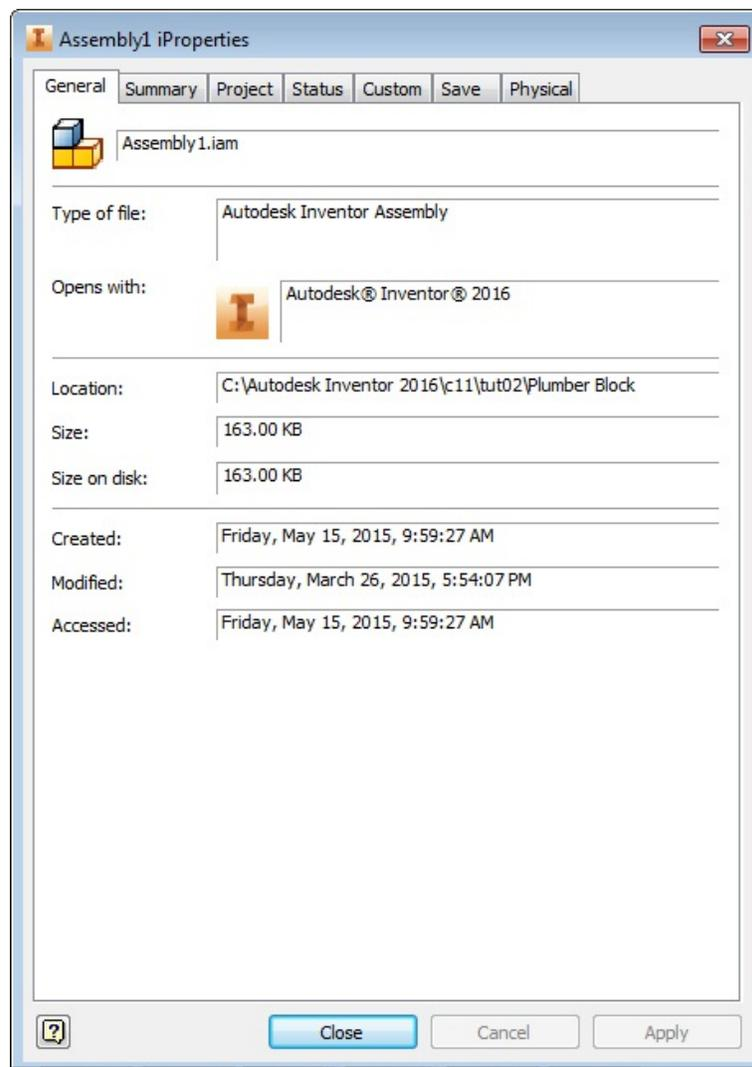

Figure 17-10 The iProperties dialog box
ALTERNATIVELY, RIGHT-CLICK ON THE NAME OF THE COMPONENT IN THE **BROWSER BAR** OF THE CURRENT ASSEMBLY AND CHOOSE **IPROPERTIES** FROM THE SHORTCUT MENU DISPLAYED; THE **IPROPERTIES** DIALOG BOX OF THE CORRESPONDING COMPONENT WILL BE DISPLAYED, AS SHOWN IN FIGURE 17-10. THE TABS IN THIS DIALOG BOX ARE DISCUSSED NEXT.
*If the component is not saved at any location after it is created then the **iProperties** dialog box displayed will be different from the one shown in Figure 17-10.*